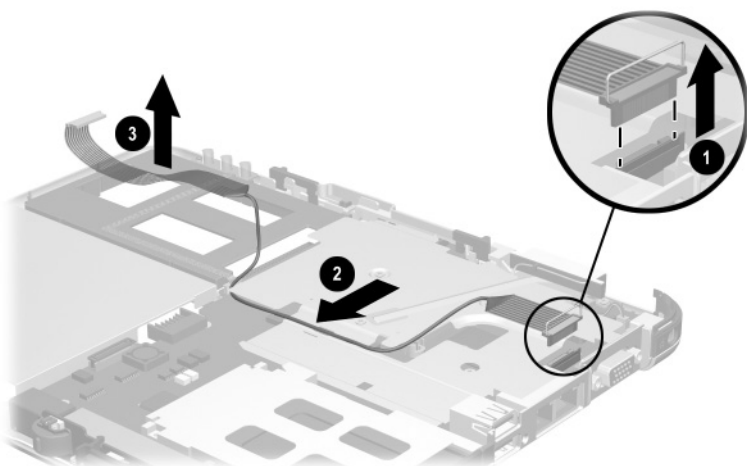

Figure 5-19. Removing the Digitizer Cable
3. Disconnect the digitizer cable ❶ from the system board (Figure 5-19).
4. Remove the digitizer cable from the clips in the heat sink ❷.
5. Remove the digitizer cable from the base enclosure ❸.